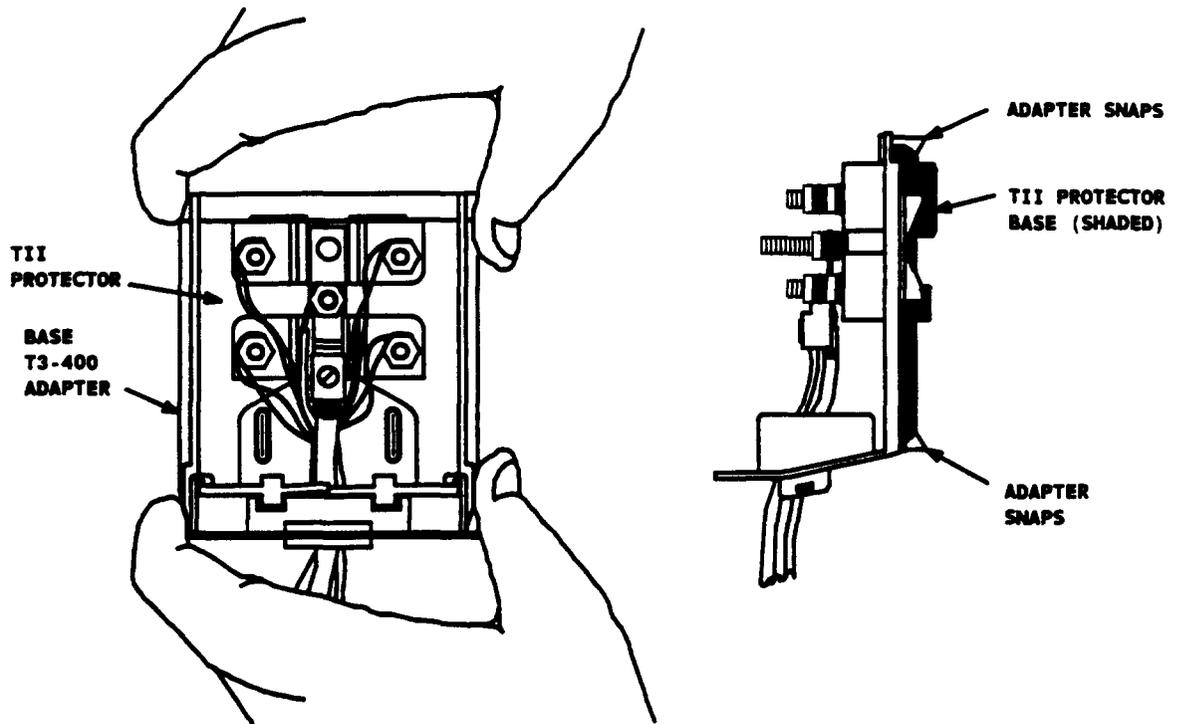

Figure 21. Snapping Adapter onto Base
- (3) Snap the T3-400 adapter onto the TII 325/326 protector base. First, push on the bottom of the adapter and then, push on the top of the adapter to secure the adapter onto the TII protector base (Figure 21).